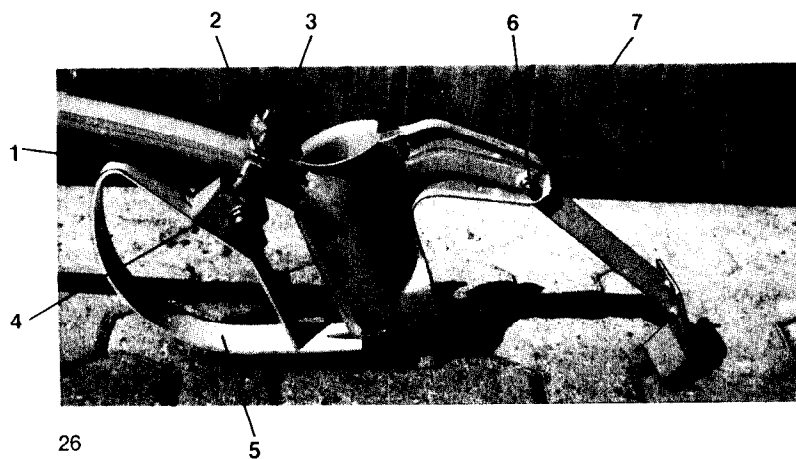

Fig. 37
On particularly light and loose soils it is possible that the coulters will penetrate too deeply in the soil despite the coulter spring pressure not being controlled. But to prevent the seed being sown too deeply in the soil, the penetration of the coulters can be controlled by fitting depth control brackets (Fig. 37).
1. Insert the U-bolt (Fig. 37/1) from below over the coulter holding tube and secure with the clamping plate (Fig. 37/2). The tube (Fig. 37/3) welded on at the side of the U-bolt must be fitted pointing back towards the coulter.
2. Secure the attachment (Fig. 37/4) to the U-bolt with the M 12 × 70 hexagon-head bolt.
3. Fit the bow (Fig. 37/5) with two round-head bolts. In doing so set the penetration of the coulters.
It is particularly advisable when sowing roots to press the seed grains into the furrow by rolling immediately behind the coulter. When attaching the root pressure wheel fit the U-bolt in the same way as for the depth control bracket (point 1). The coulter supports must first be dismantled. To do this, remove the circlips (Fig. 37/6) and the bolts (Fig. 37/7) on the coulter. Secure the root pressure wheel (Fig. 38/2). Tighten the safety nut only so far that the root pressure wheel can still move up and down easily. Secure the tension chain (Fig. 38/3) to the coulter stilt with the M 10 × 35 bolt (Fig. 38/4). Also ensure that you do not tighten the safety nuts too much otherwise the coulter will become bent at this point.
Remove the standard coulters supports (Fig. 30/9) from the long coulters of the drill by loosening the circlips (Fig. 37/6) and withdrawing the bolts (Fig. 37/7). Then fit the single seed harrow tines (Fig. 56/1) and the leg springs (Fig. 56/2) to the long coulters again with the screws (Fig. 56/3). Ensure that the springs, as Fig. 56 shows, are fitted with the tip pointing upwards at an angle.